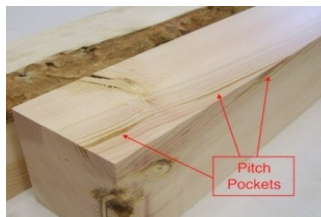

Fig. 126. Pitch pockets
2. **Pitch Pockets:** Internal cavities that contain resinous materials and sometimes bark (figure 126).